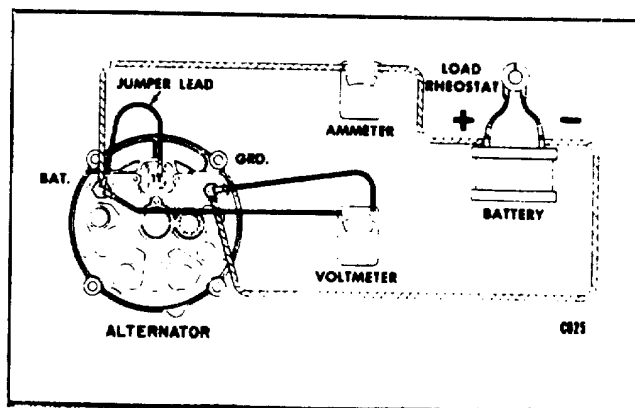

Figure 16.
1. Check the alternator on a test bench, make electrical connections as shown in Figure 16, operate at specified speed, and check for rated output.